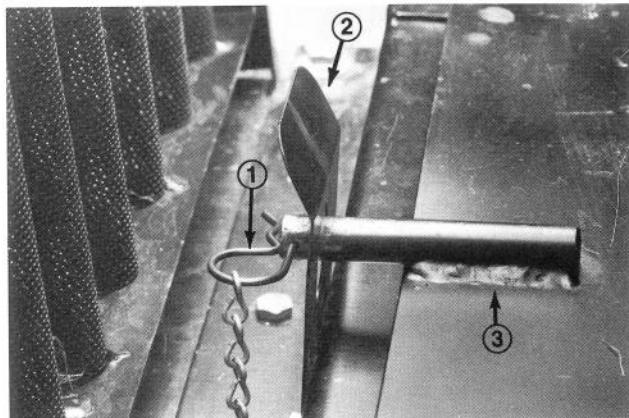

Figure 4
1. Mounting plate    3. Shoulder bolt with washer and locknut (2)
2. Seat spring        4. Adjustment handle (2)
**Note:** Traction unit mounting plate can be flipped up by removing the hair pin and pulling back on the locking spring flap (Fig. 4).